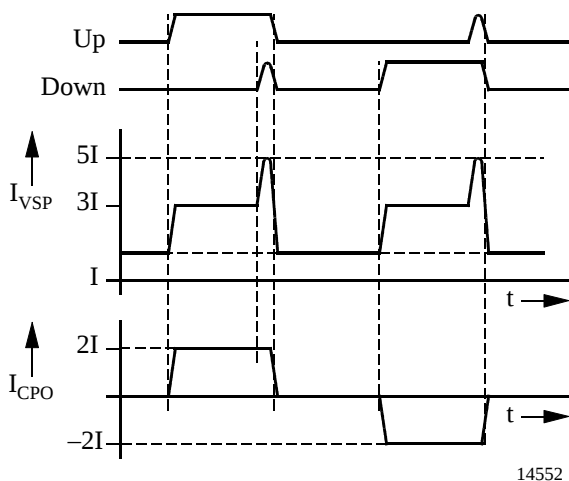

Figure 3. Supply current of the charge pump = $f(t)$
1) Mean value, measured with F_{ND} = 151 MHz, F_{RD} = 150 MHz, current vs. time, see page 6, figure 3.
Due to the pulsed operation of the charge pump, the current into the charge-pump supply pin VSP is not constant. Depending on I (see figure 6) and the phase difference at the phase detector inputs, the current I_{VSP} over time varies. Basically, the total current is the sum of the quiescent current, the charge-/discharge current, and – after each phase comparison cycle – a current spike (see figure 3).